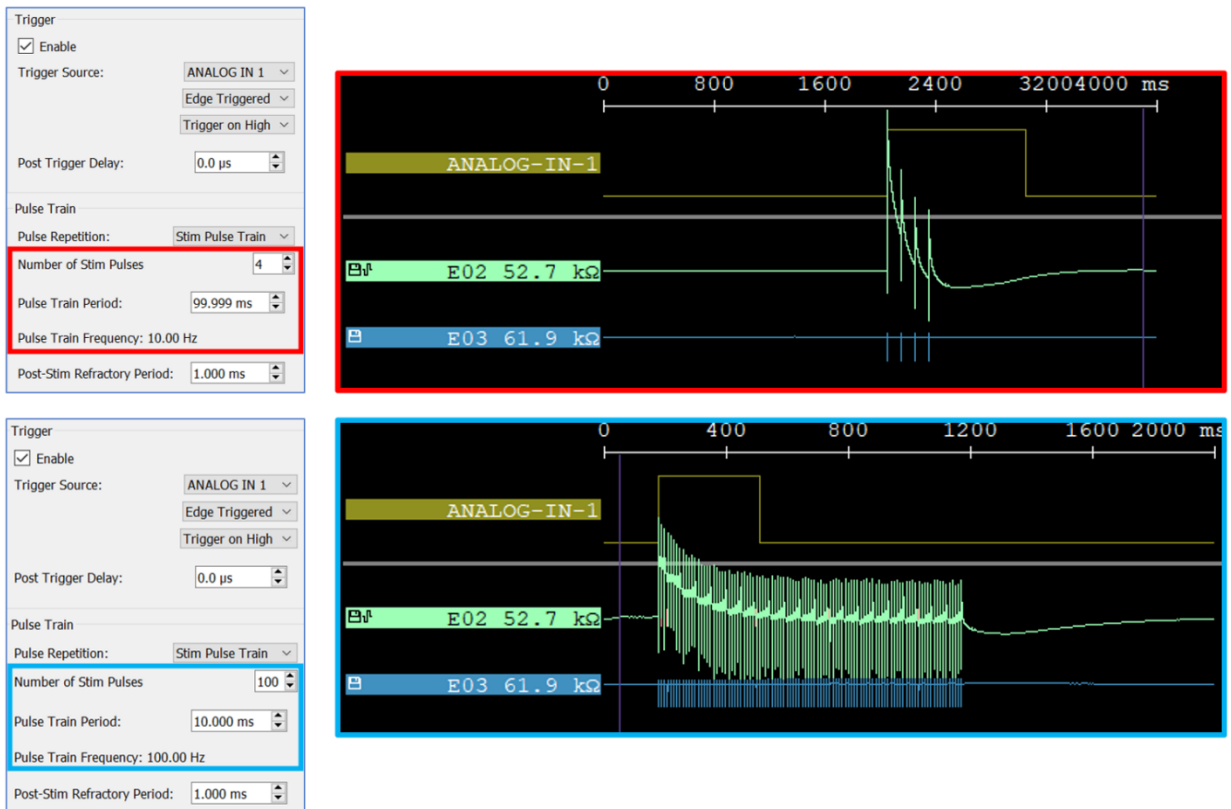

Fig. 76: Stimulation Parameter window with the pulse train panel highlighted.
- **Fig. 76** shows two examples for pulse train stimulation. The top panel (red box) shows a train of 4 pulses with the pulse train period of 100ms. The image shows 4 pulses that are triggered on high spaced at 100ms. The bottom panel (blue box) shows a train of 100 pulses with the pulse train period of 10ms. The image shows 100 pulses that are triggered on high spaced at 10ms.